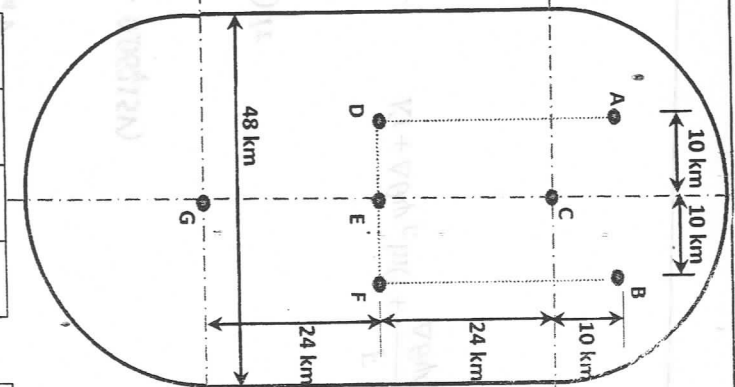

Figure 1
- B. A river basin has the area in the form shown in **figure 1**. The seven raingauge stations *A*, *B*, *C*, *D*, *E*, *F* and *G*, have records 112, 93, 103, 97, 89, 75 and 68 mm of rainfall respectively. **It is required to** determine the average depth of rainfall using thiessen polygon and arithmetic mean methods. (12 marks)